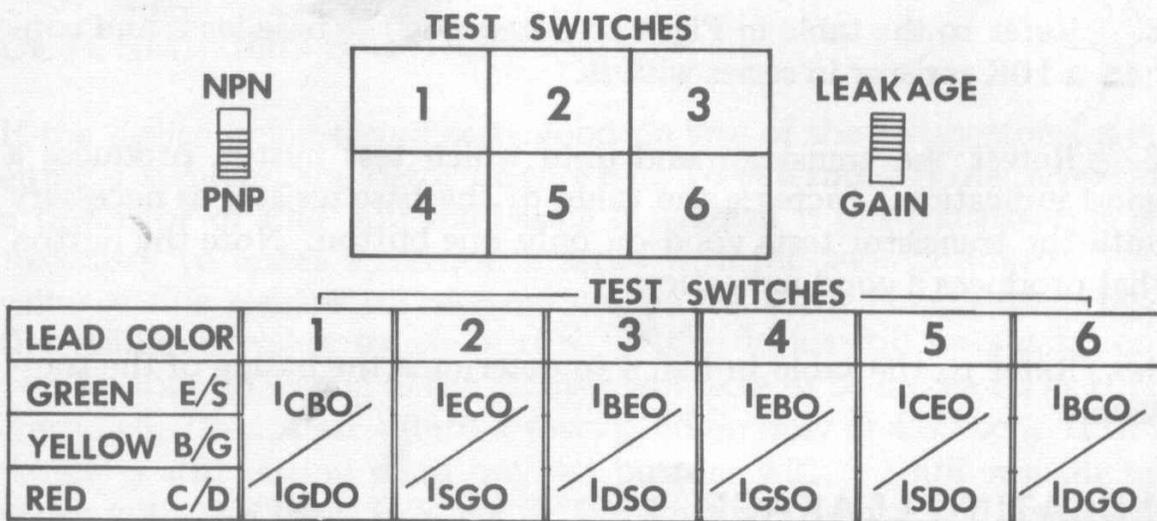

Fig. 5 Leakage Currents for Properly Connected Transistor
① **POLARITY SWITCH:** This slide switch selects the polarity of the test voltages applied to the device under test. Normal operating procedure is to set the switch to the NPN position for NPN transistors or N channel FET's, and to the PNP position for PNP transistors or P channel FET's. However, if the correct polarity is not known, no damage will result to the device under test if the switch is in the wrong position.
② **FUNCTION SWITCH:** This slide switch selects either the gain or leakage tests. The gain test may be performed with the transistor in or out of circuit, but the leakage test may be performed out of circuit only.
③ **TEST SWITCHES:** The six pushbutton switches on the keyboard apply the test voltage to the elements of the device under test. The table in Fig. 5 shows the lead coding of the 6 pushbuttons.
2. Refer to Fig. 5 and press the test button corresponding to the desired leakage test. Note that for regular transistors, buttons numbers 2 and 6 will produce a full scale leakage indication, corresponding to the conduction of the forward biased base-emitter and base-collector junctions respectively. Junction FET's will produce a full scale reading on buttons 2 and 6 corresponding to the forward conduction of the gate diode; and on buttons 3 and 5 corresponding to the current flow through the low resistance source-drain channel. MOS or IG FET's should only produce a full scale reading on buttons 3 and 5; corresponding to the current flow through the channel. Fig. 6 contains a table which establishes guidelines for limits of leakage currents to be expected on good devices.